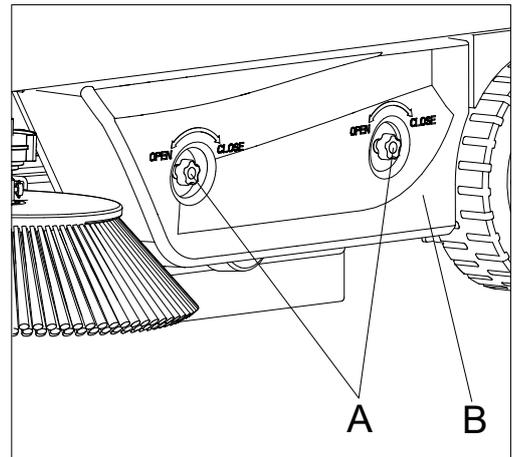

Figure 20
3. Unscrew the two knob nuts (A, Figure 20) and remove the left cover (B, Figure 20).
11. Install the left cover (B, Figure 20) and tighten the two knob nuts (A, Figure 20).